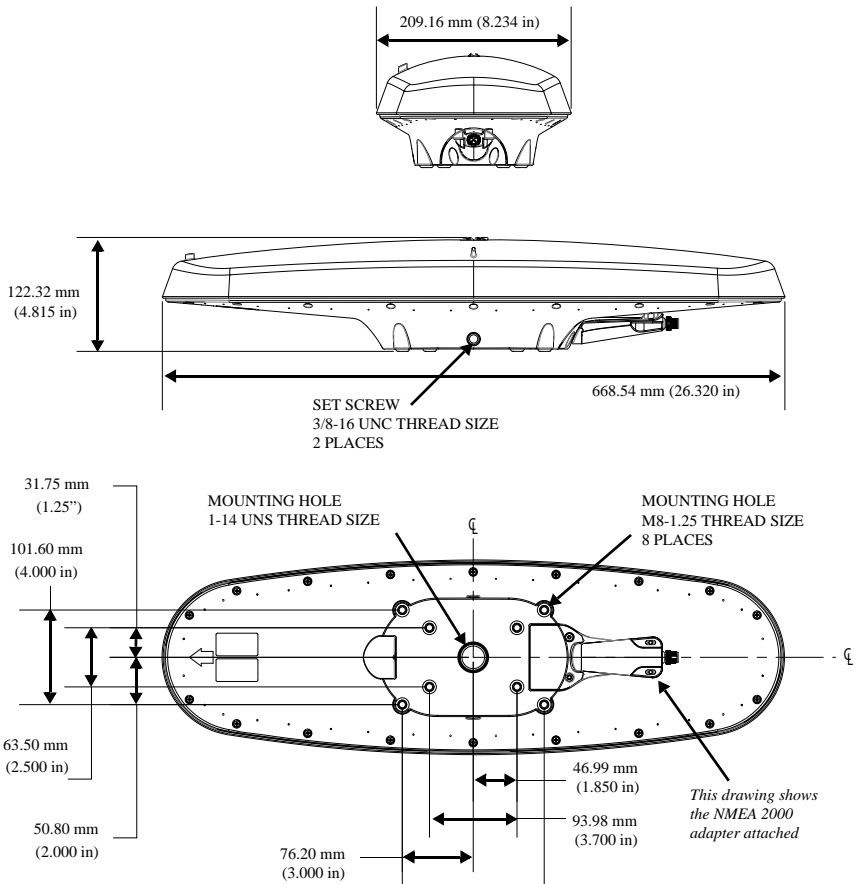

Figure 2-6: G2/B dimensions
- Flush mount - The bottom of the G2/B contains eight M8-1.25 holes for flush mounting the unit to a flat surface (see Figure 2-6). The eight holes comprise two sets of four holes. The inner four holes are in the same location as the MV102, allowing you to use the G2/B as a drop-in replacement. The outer four holes provide a wider mounting option.
- Pole mount - The bottom of the G2/B contains a mounting hole (1" thread, 0.9" depth) for easy pole mounting. Hand tighten until snug (**do not** overtighten). The set screws on the long sides of the base (see middle drawing in Figure 2-6) allow you to secure the G2/B in place (3/16" Allen wrench not included).
Figure 2-6 illustrates the physical dimensions of the G2/B.
3. Use the set screws on the long sides of the base (see Figure 2-6 on page 12) to secure the G2/B in place (3/16" Allen wrench not included).